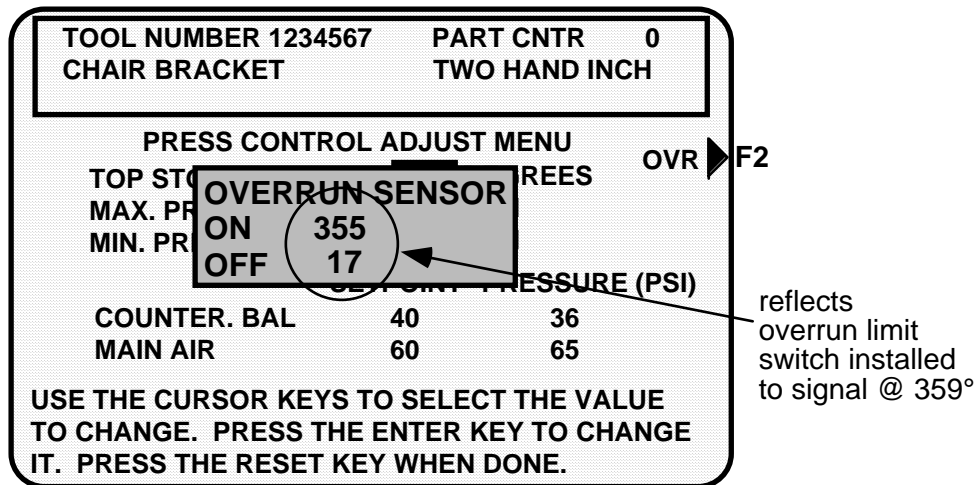

Figure 4-13. View Overrun "on" and "off" angles in Run mode
1. If you are not already there, get into SmartPAC's Initialization mode, and select "Press Control." In the WPC Initialization menu that appears, select "Press Parameters." Highlight and select "Main Air Limit" (see Figure 4-13). Then press ENTER.